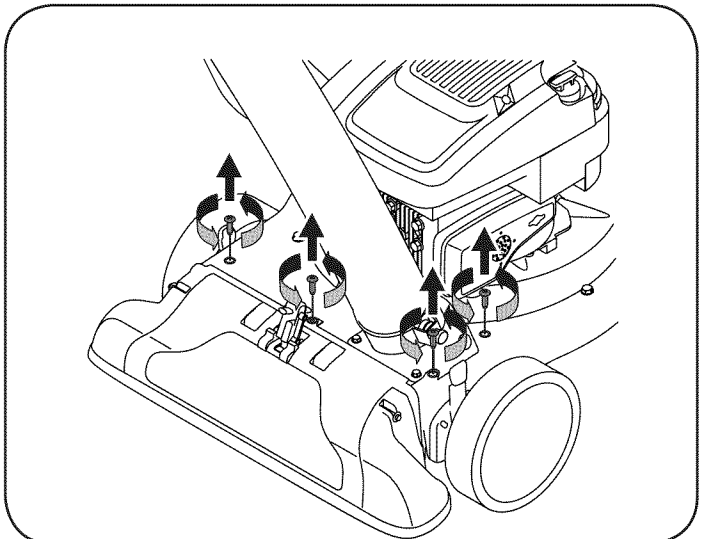

Figure 26
6. Remove the four screws on the upper housing that secure the nozzle cover. See Figure 26.